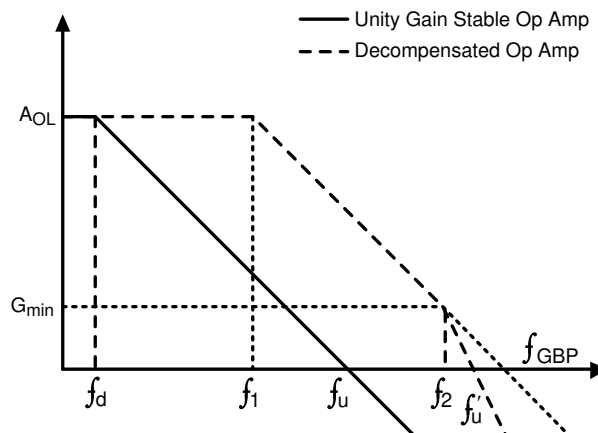

Figure 6-3. Gain vs Frequency Characteristics for a Unity-Gain Stable Op Amp and a Decompensated Op Amp
As shown in Figure 6-3, the dominant pole of a unity-gain stable amplifier, f_d , is moved to the frequency f_1 in the case of a decompensated op amp. The solid A_{OL} plot is the open-loop gain plot of a traditional unity-gain stable op amp. The change in internal compensation in a decompensated amp such as the TLV904xD increases the bandwidth for the same amount of power. Besides the advantages in the above mentioned parameters, an increased slew rate and a better distortion value is achieved because of the higher available loop-gain, compared to the unity-gain counterpart. The most important factor to consider is ensuring that the op amp is in a noise gain (NG) greater than G_{min} . A value of NG lower than G_{min} results in instability, as shown in Figure 6-3, because the $1/\beta$ curve intersects the A_{OL} curve at 40dB/decade. This method of analyzing stability is called the *rate of closure method*. See TI precision labs for a better understanding on device stability and for different techniques of ensuring stability.